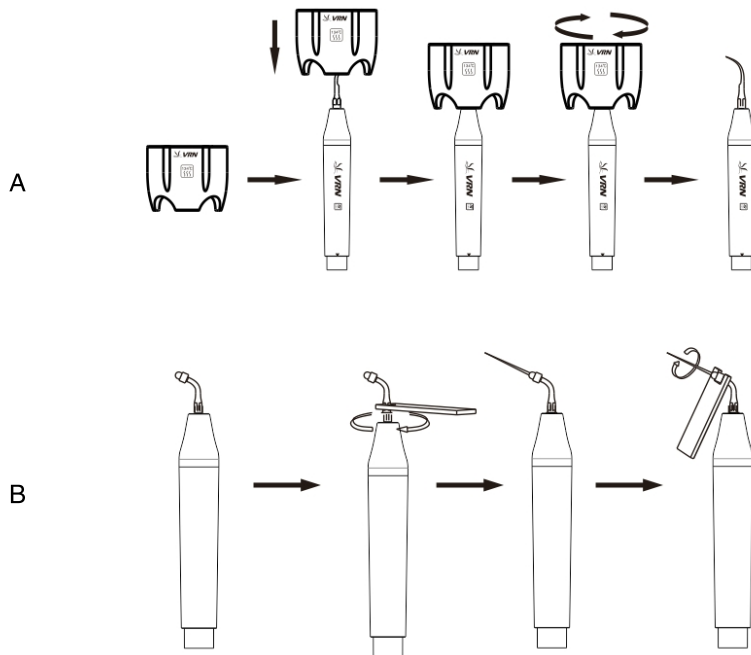

Figure 9
3.1.4 Torque wrench operation (See Figure 9)